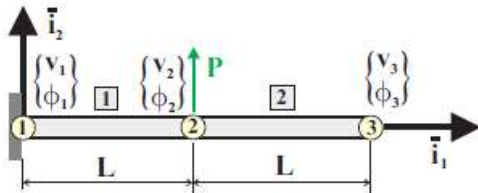

Fig. 11.50. Cantilever with tip support and concentrated load applied at mid-span.
Consider the cantilever beam of length $2L$ shown in fig. 11.50. A concentrated load is applied at mid-span and the tip is pinned. Construct a finite element solution to this problem using two elements of length L . (1) Determine the nodal displacements and rotations and compare to the exact results obtained using the unit load method. (2) Determine the nodal reactions for the constrained degrees of freedom. (3) Construct a plot of the deflected shape for the beam.